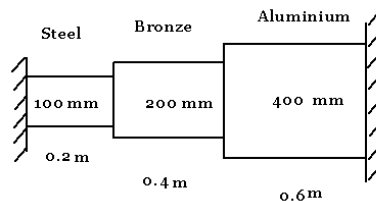

Figure 7
36. A compound bar consist of steel, copper and aluminum bars connected in series is held between two supports as shown in **Figure 7**. When the temperature of the compound bar is increased by 50°C, determine stresses induced in each bar. Consider the two cases i) Rigid supports ii) support yield by 0.5mm. Take  $\alpha_s=12 \times 10^{-6}/^{\circ}C$ ,  $\alpha_B=19 \times 10^{-6}/^{\circ}C$ ,  $\alpha_{Al}=22 \times 10^{-6}/^{\circ}C$ ,  $E_s=200$  GPa,  $E_B=83$  GPa,  $E_{Al}=70$  GPa